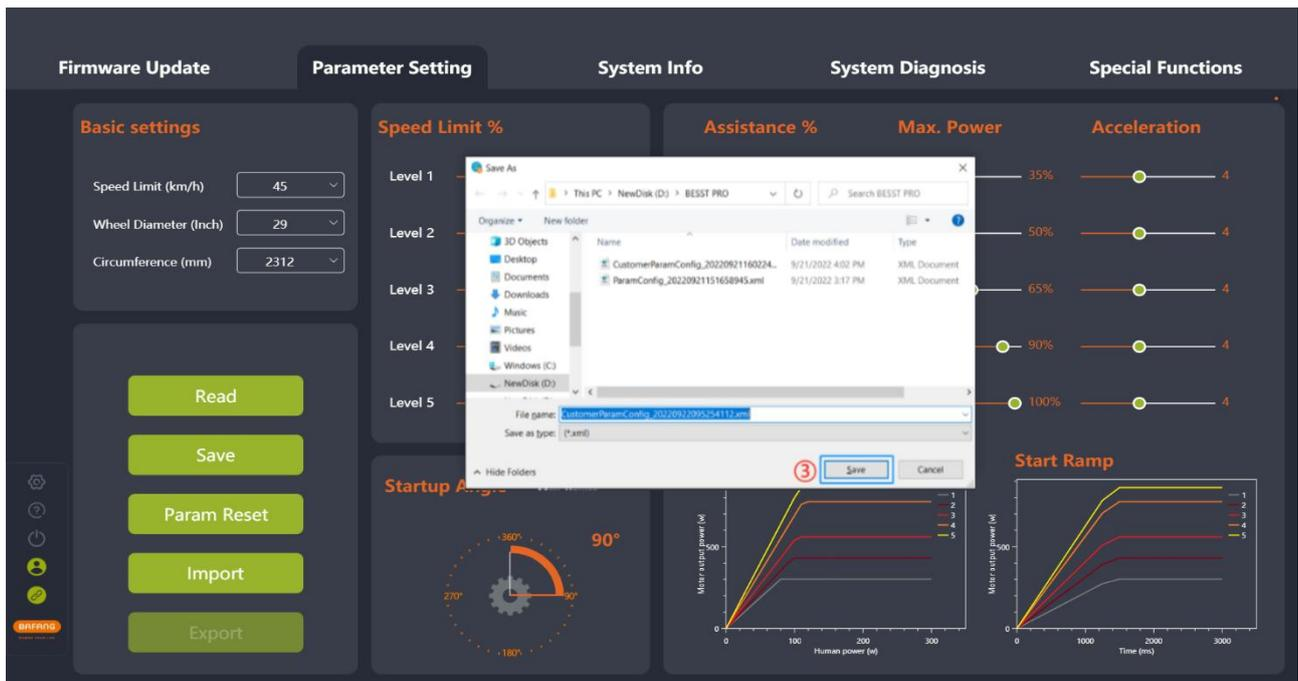

Fig. 5-20 Export
- (3) Export the configuration information on the parameter interface and the controller hardware version (for importing and verification) to a file and save it locally. The path can be chosen independently and the file name can be edited, e.g. PCustomerParamConfig_20220922095254112.xml (Fig. 5-20).